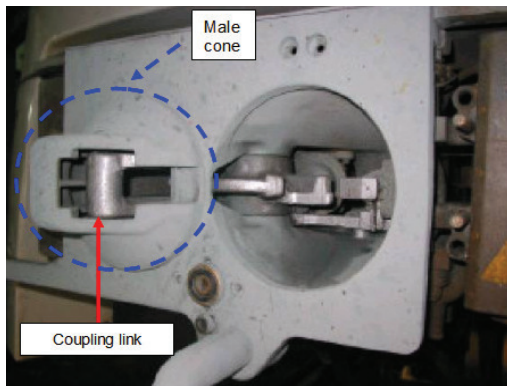
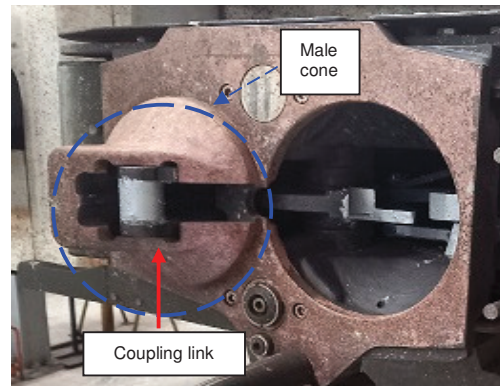

Figure 1: Front view of the Coupler Head
Figure 1A: Front view of the coupler head
- a. The coupling links lie at the edge of the male cone, refer to Figure 1 (ET-01) & Figure 1A (ET-02).